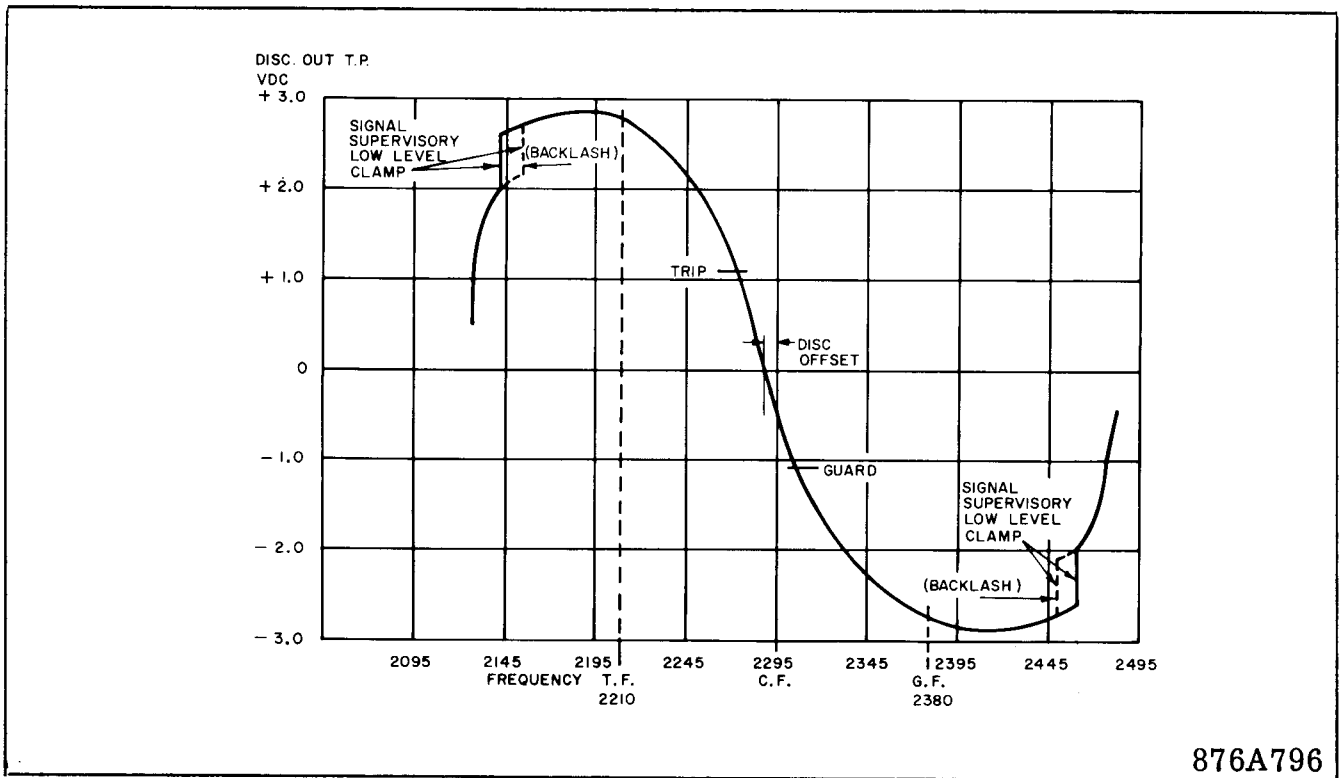

Fig. 15. Typical Discriminator Output.
3. F.S. Discriminator and D-C Amplifier Module HB25130-2 and HB25170 (Figs. 15 and 16)